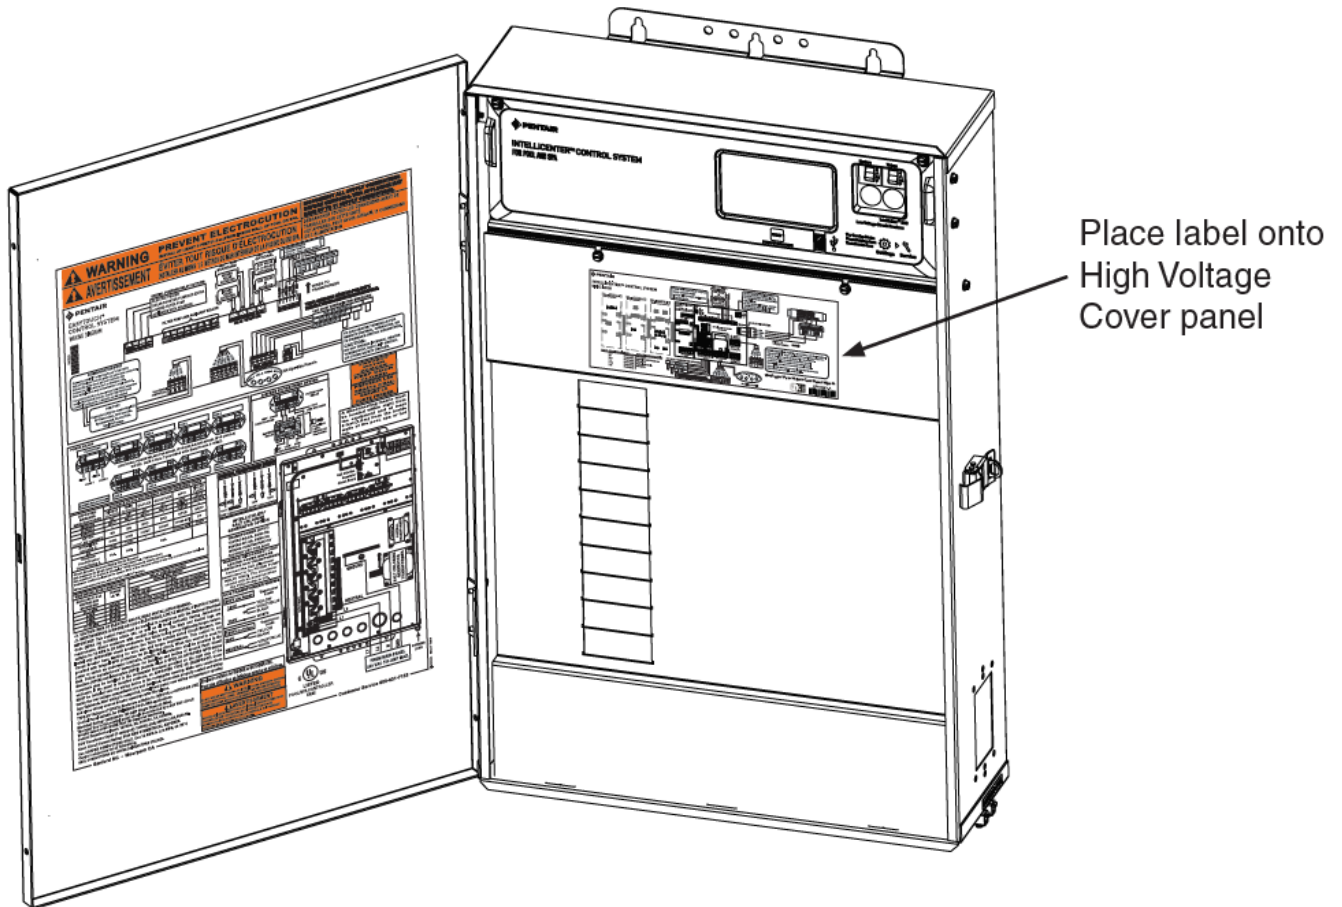

Figure 12. Load Center shown (2012 or later)
2. Affix the wiring label ((10), P/N 522612) onto High Voltage Cover panel. See Figure 12.